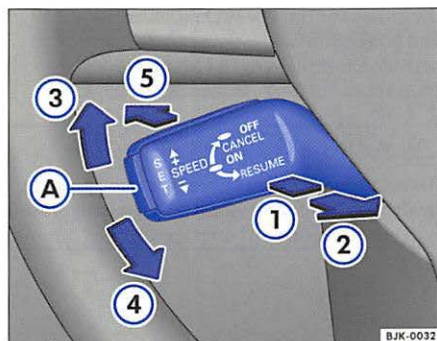

Fig. 85 Cruise control lever
- Pull the lever toward the steering wheel to the first detent in the direction of arrow → fig. 85 ①. The **CRUISE** or symbol lights up.
- The set speed can be switched off temporarily if you press the brake pedal or the clutch pedal. Pull the lever briefly toward the steering wheel to the point where you can start to feel resistance ⇒ page 107, fig. 85 ② to resume the speed again. ◀
- Push the lever briefly to the point where you can start to feel resistance in the direction of arrow ⇒ page 107, fig. 85 ⑤.
point where you can start to feel resistance ⇒ page 107, fig. 85 ②.